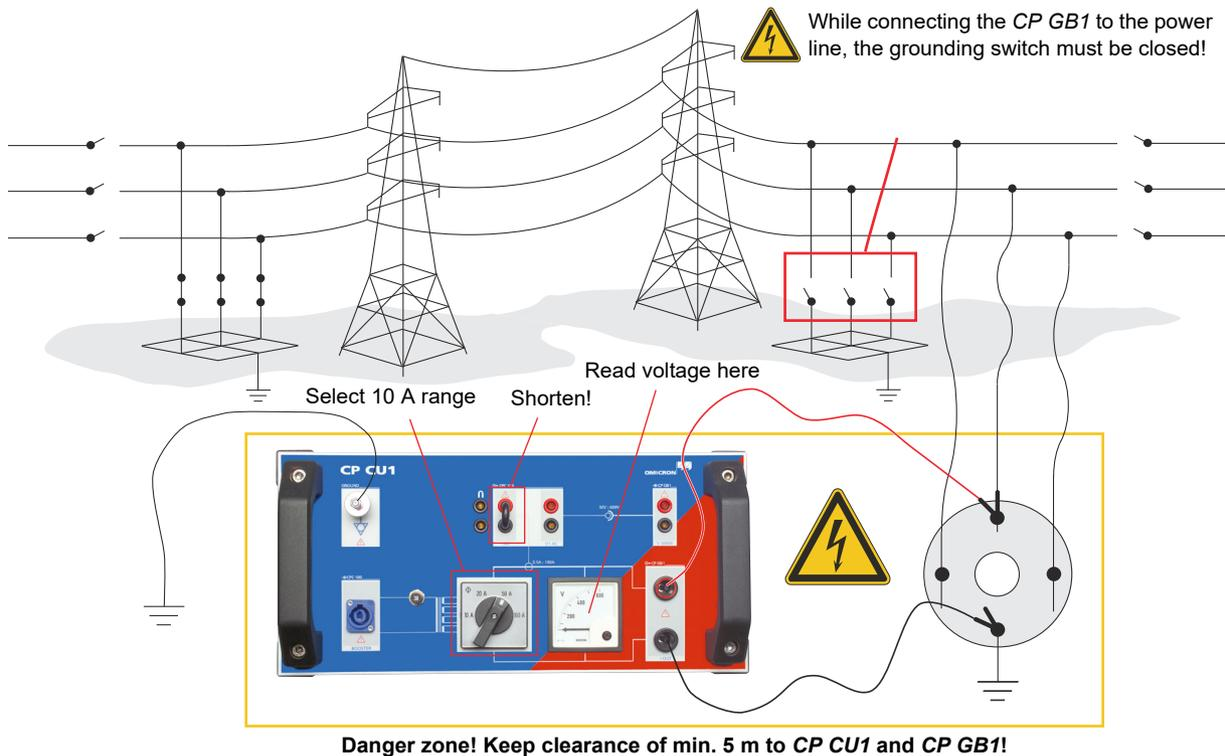

Figure 3-2: Measuring the coupled voltage with the *CP CU1*
- ▶ Set up the *CP CU1* and the *CP GB1* according to Figure 3-2 below. The Kelvin clamps on the grounding box must be connected to the phase where the highest circular current has been measured and ground.
In the example in Figure 3-2 the *CP CU1* is connected to L2 and ground.
3. Connect the cables of the grounding set used for estimating the open-line voltage (see step 3. on page 25) to the *CP GB1*. (See Figure 3-2: on page 26).
6. Connect the *CP CU1* with the *CP GB1* as shown in Figure 3-2: on page 26.